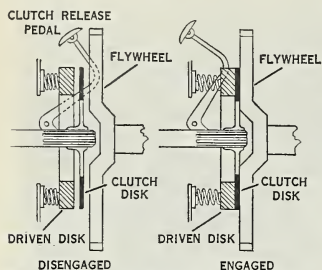

Fig. 143. A disk clutch of an automobile.
**The automobile.** The gasoline engine drives the automobile with a more complex transfer of power. The automobile engine has very little power when just starting. Therefore, it must start running without connection with the driving wheels. After the engine has started, a clutch connects the engine with the wheels (Fig. 143). In setting the vehicle into motion, also, more power is needed than